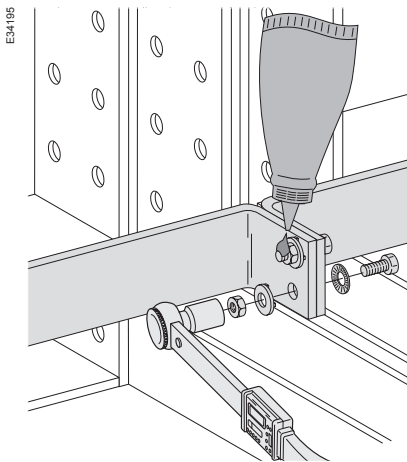

Fig. 14
- The earthing bars of the various sections are connected together using class 8.8 nuts and bolts (see Fig. 14).
Assemble the bars using M10 x 30 bolts with contact washers and tighten the nuts as indicated hereunder using a torque wrench. After tightening, mark each nut with a drop of varnish (see Fig. 14).